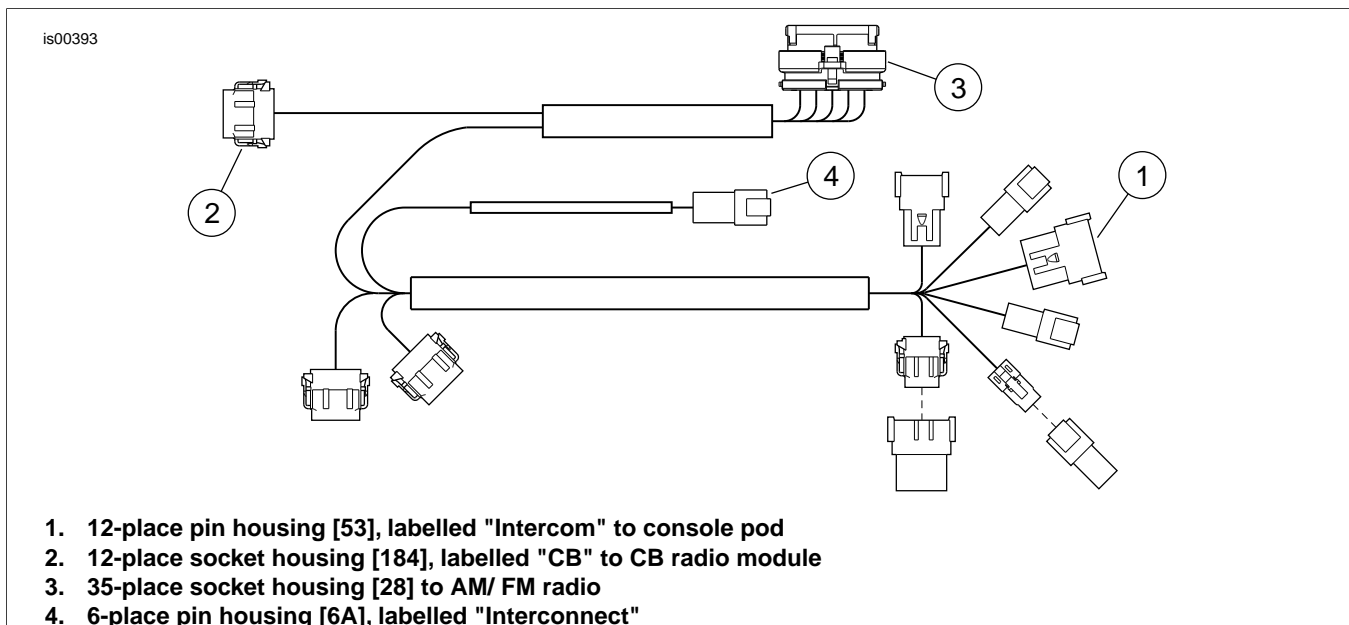
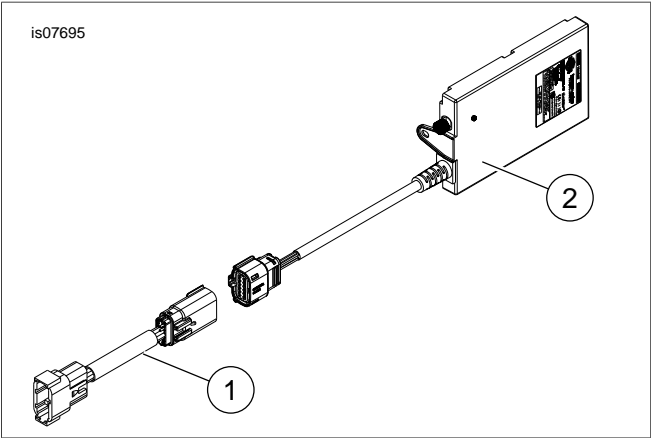

Figure 2. Non-Ultra Overlay Harness
Figure 3. Service Parts: CB Radio Kit
See Figure 3 and Table 1.
11. See Figure 2.
- a. Plug the overlay harness 12-place pin housing (1) labeled "Intercom" [53] into the socket housing coming from the console pod.
- b. See Figure 3. Connect the CB module (2) to the CB module harness (1) as shown.
- c. See Figure 2. Connect the CB module harness connector from kit into connector [184] labeled "CB" (2) on the Non-Ultra Overlay harness.
- d. Plug the 35-place radio socket housing [28] (3) into the radio.
- e. Locate the interconnect harness audio connector [6B] near the back of the radio. Plug 6-way pin housing [6A] (4) on the overlay harness into socket housing [6B].